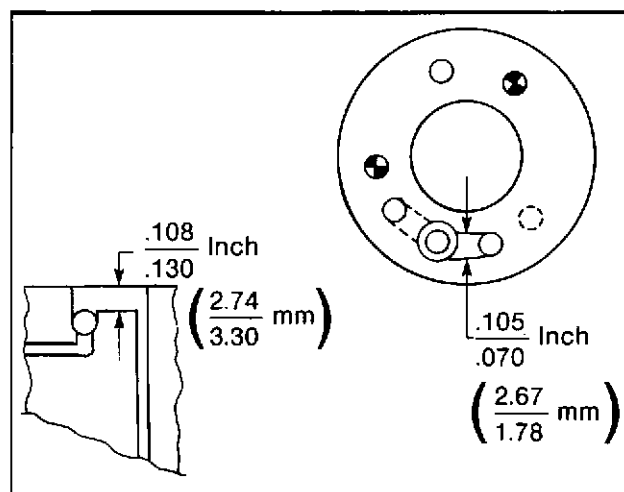

Fig. 2-18. Dimensions of the fuel groove in the injector barrel
7. In 1982 the fuel groove in the top of the barrel was made deeper, Fig. 2-18. The deeper groove will allow more fuel to flow around the check ball. The barrel part number was not changed when this improvement was made.